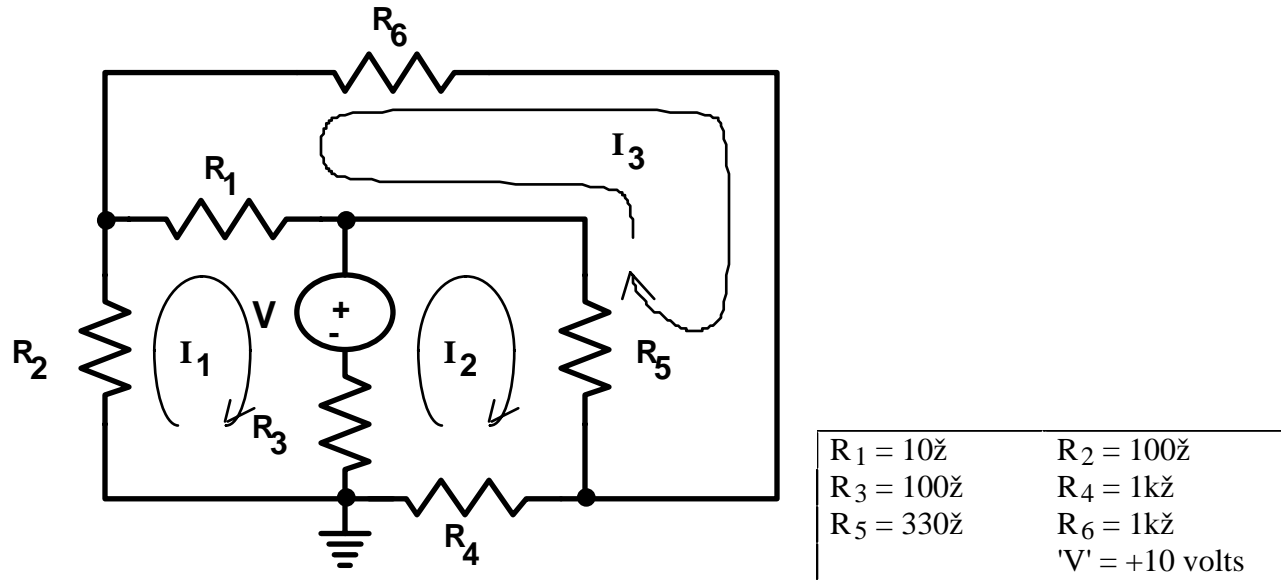

Figure 7.2
(III) Determine all loop currents and branch currents for the circuit of Figure 7.2 using a symbolic math program. Note that the circuit is the same as Figure 7.1 except resistor $R_6 = 1k\Omega$ has been added to the circuit. What is the current supplied by the voltage source? What is the power supplied by the voltage source?
- (2) Now replace R_5 with *two* 330Ω resistors in parallel and re-measure the current in each branch of the circuit. Next, replace R_5 with *three* 330Ω resistors in parallel and measure the branch currents again. Be sure to measure and record the actual resistance of the nominal 330Ω resistors use use.
- (3) Assemble the circuit of Figure 7.2. Note that the circuit is the same as Figure 7.1 except resistor $R_6 = 1k\Omega$ has been added to the circuit. Measure the current in each resistor of the circuit. Also measure the voltage of each node in the circuit with respect to the labeled ground reference node.
- (c) For the circuit of Figure 7.2 (part 3), compare the predicted values of loop current from the pre-lab (assuming the nominal resistors) with the measurements made in the lab with the actual resistors. What is the percent difference $[100\% \times (I_{\text{predicted}} - I_{\text{actual}}) / I_{\text{predicted}}]$ between the predicted currents and the measured currents? Are the differences within the resistor tolerance range? Also compare the measured node voltages with predictions based on Ohm's law.